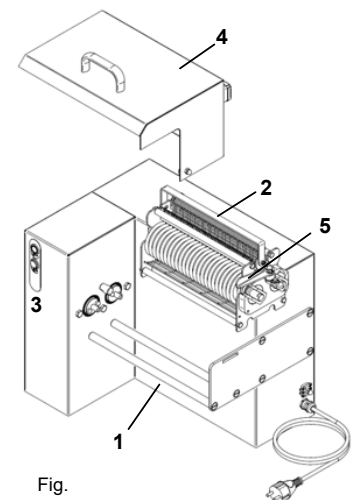

Fig. 6.4.1
- Raise the interlocked blade guard (Ref. 4 Fig. 6.4.1).
- Place the cartridge on the bars of the base (Ref. 1 Fig. 6.4.1).
- Turn the cartridge lever (Ref. 5 Fig. 6.4.1) so that the blade roller pins insert into the drive pins, until they slot into place.
- Close the interlocked blade guard (Ref. 4 Fig. 6.4.1).
- Press the controls (Ref. 3 Fig. 6.4.1) to switch the machine on or off.
**Handle the blade cartridge always through the appropriate handle (Ref. 2 Fig. 6.4.1) and protect the hands with Kevlar cut-resistant gloves.**
- Turn the interlocked blade cover (Ref. 4 Fig. 6.4.1) by 90° and push it towards the left: the blade guard will come off.
- Detach the blade cartridge lever (Ref. 5 Fig. 6.4.1).
- Take the cartridge (Ref. 2 Fig. 6.4.1) off the bars of the base using the handle and pull it so that the blade pins detach from the drive mechanism.